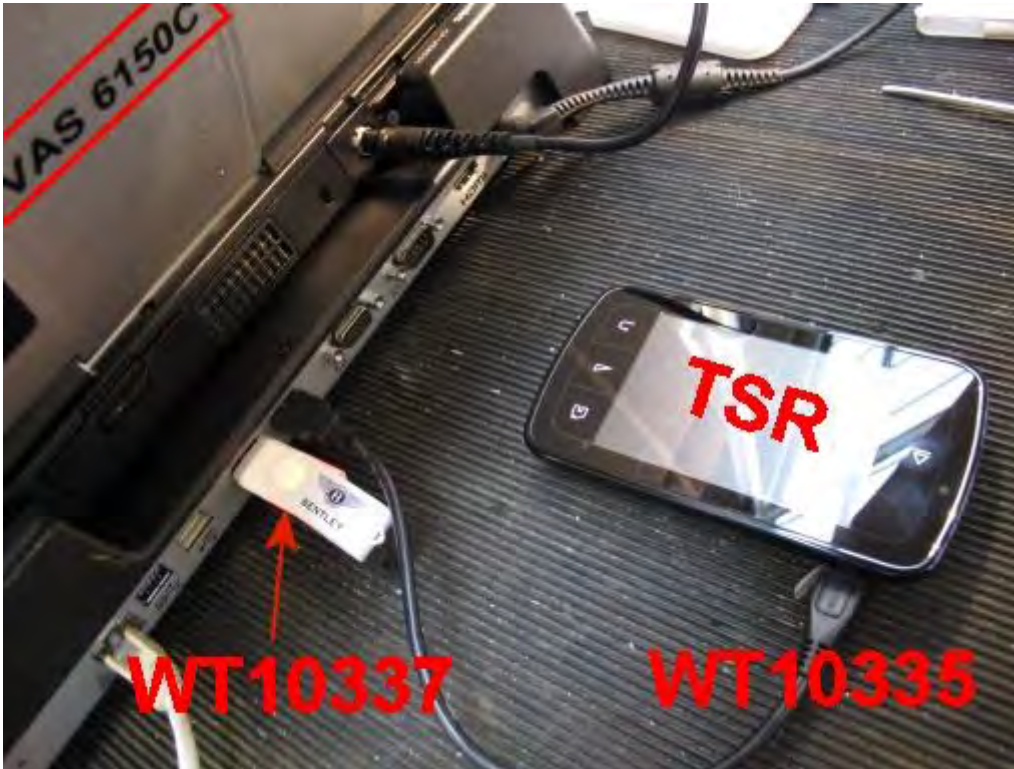

Figure 11
4. Connect the TSR to the Bentley diagnostic tool (VAS 6150C or similar) using USB cable (part number WT10335). (See Figure 11)
5. Insert the USB memory stick (part number WT10337) into a spare port on the Bentley diagnostic tool (VAS 6150C or similar). (See Figure 11)